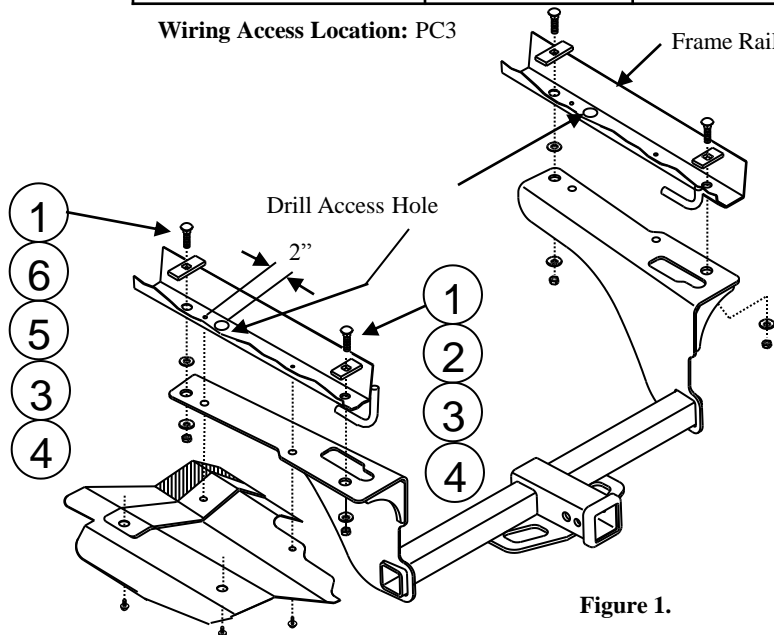

Figure 1.
- Temporarily lower heat shields by removing four (4) M6 bolts. Save bolts to re-install heat shields.
- Drill a 1-1/8" access hole in bottom of frame approximately 2" from forward heat shield attachment, see figure 1.